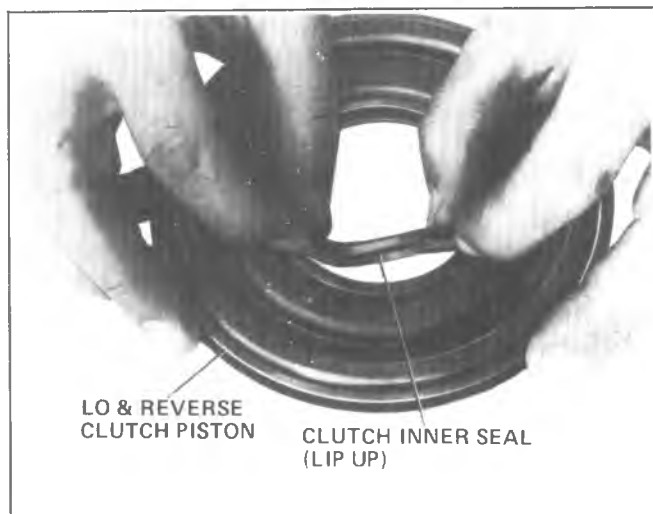

Fig. 7A-79A--Removing or Installing Low and Reverse Clutch Inner Seal
2. Remove waved spring (Fig. 7A-77A).